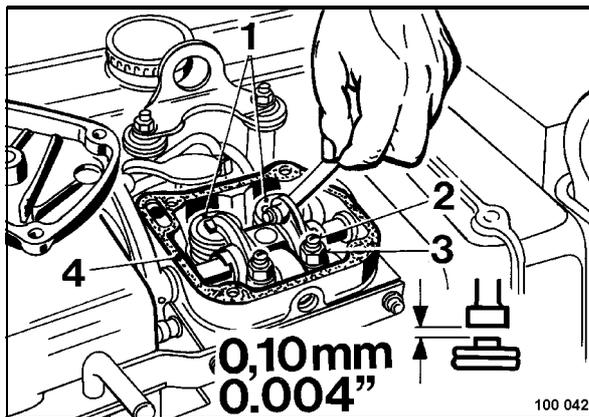

Fig. 68
- Check the valve clearance with a 0.1 mm feeler gauge on both valves 1 (Fig. 68) and correct it if necessary.